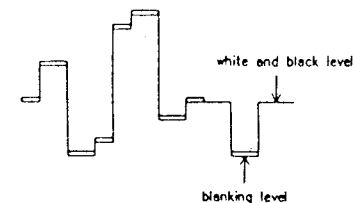

Figure 8-2
- 5) Adjust L505 such that the level of the black and white are in accordance with the blanking level (See Fig. 8-2)